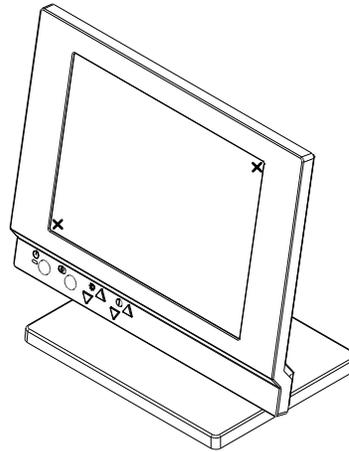

Figure C-2. Low Resolution Calibration
2. Wait to hear three beeps, then touch the lower left corner of the screen. See Figure C-2.